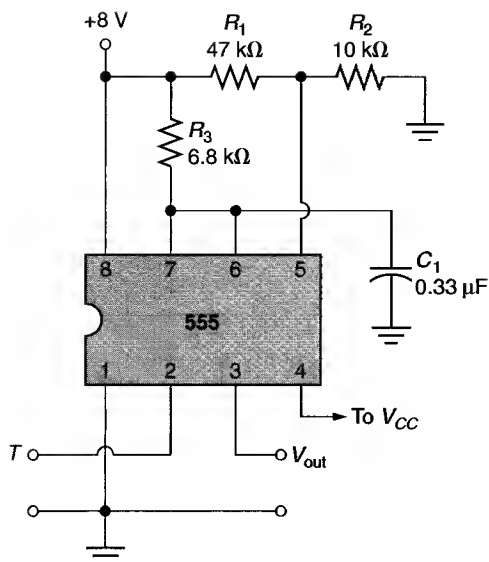

FIGURE 19.65
31. Calculate the value of $V_{T(max)}$ for the switch in Figure 19.65.
32. The resistor values in Figure 19.65 are changed to $R_1 = 33 \text{ k}\Omega$ and $R_2 = 11 \text{ k}\Omega$. Recalculate the value of $V_{T(max)}$ for the circuit.